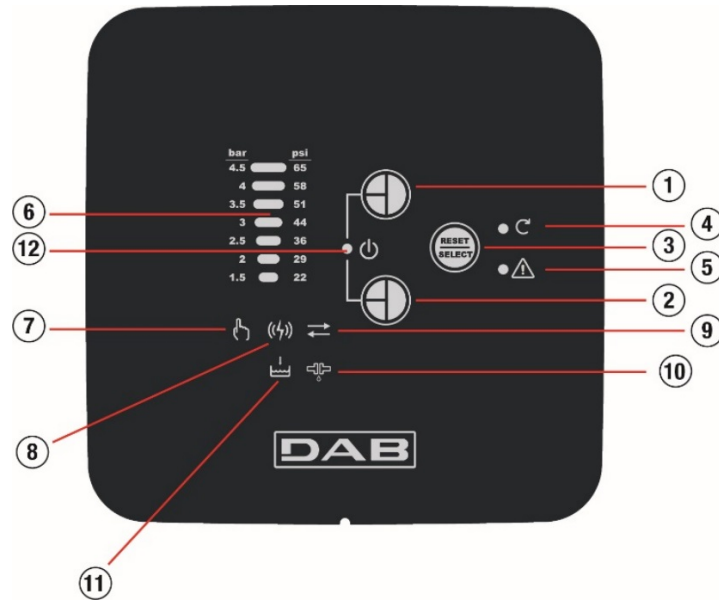

Figure 12: panel of the COM BOX device
In the case of the DTRON3 model, the anticycling function is disabled by default. It can be enabled using the COM BOX (see function Figure 12, 11)
| See Figure 12 | LED                                                                                 | Function     | Explanation                                                                                                 |
To pass **from Monitor mode to SETUP mode**, hold down the buttons “+” (Figure 12, 1) and “Reset/Select” (Figure 12, 3) simultaneously for at least 3 seconds. To pass **from SETUP mode to Monitor mode**, hold down the buttons “-” (Figure 12, 2) and “Reset/Select” (Figure 12, 3) simultaneously for at least 3 seconds or wait for 1 minute without touching any button on the interface. When switched on, the COM BOX is in Monitor mode by default.
**Motor status (Fig 12, 4)**
**Alarm reading (Fig 12, 5)**
**MANUAL MODE function (fig.12, 7)**
**PLC connection (Fig 12, 8)**
By simultaneously pressing and releasing the "+" and "-" buttons (fig 12, 1 - 2), the pump motor stops unconditionally and cannot start again until the "+" and "-" buttons (fig 12, 1 - 2) are pressed again simultaneously and released. This Inhibition also prevails over any motor start set in "MANUAL" mode.
The alarms can be set manually by pressing the "Reset/Select" button (Figure 12, 3).
With the "Reset/Select" button (Figure 12, 3) you can go through the settings described below.
With this function it is possible to vary the pump CUT-IN value. This value can be increased/decreased with the "+" and "-" buttons (Fig 12, 1-2) and can assume the values represented in the barometric scale by flashing.
In this setting, the pump motor is switched on using the "+" button (Fig 12, 1).
The "-" button (Fig 12, 2) restores normal operating conditions.
In this setting, by pressing the "+" button (Fig 12, 1) for 5 seconds, the COM BOX temporarily enters the PLC association status through the power supply network.
Pressing the "-" button (Fig 12, 2) for 5 seconds eliminates any association with the DTRON3.
In this setting, use the "+" button (Fig 12, 1) to activate the ANTICYCLING function described above.
The "-" button (Fig 12, 2) deactivates this function.